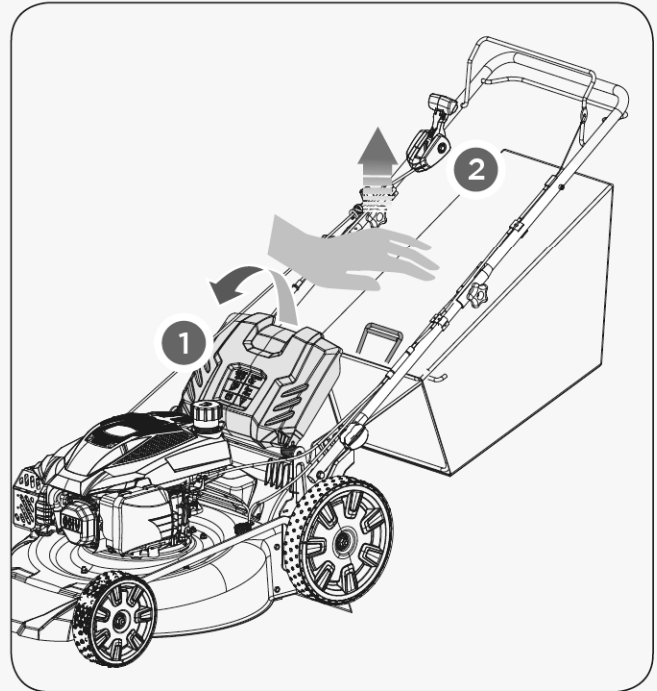

Figure 11
1. Flip the rear discharge door up. (See **Figure 11, illustration 1**)
2. Lift the grass catcher with the frame handle. (See **Figure 11, illustration 2**)